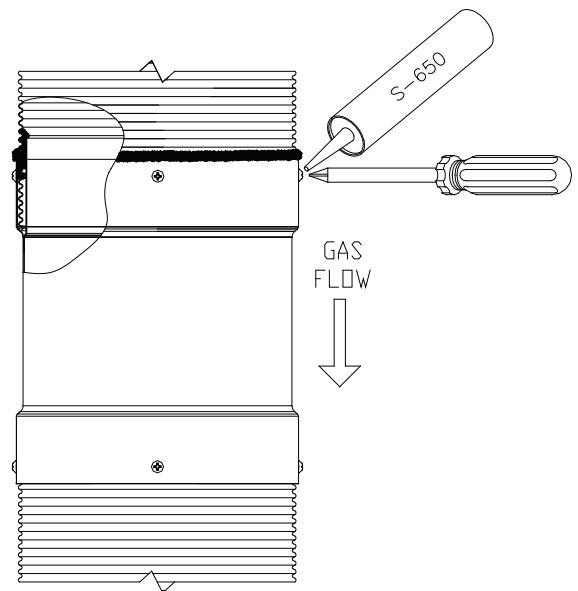

Figure 24 - Secure Seal Flex screws
- 3.5. Add the red S-650 caulking over the screws (Figure 24).